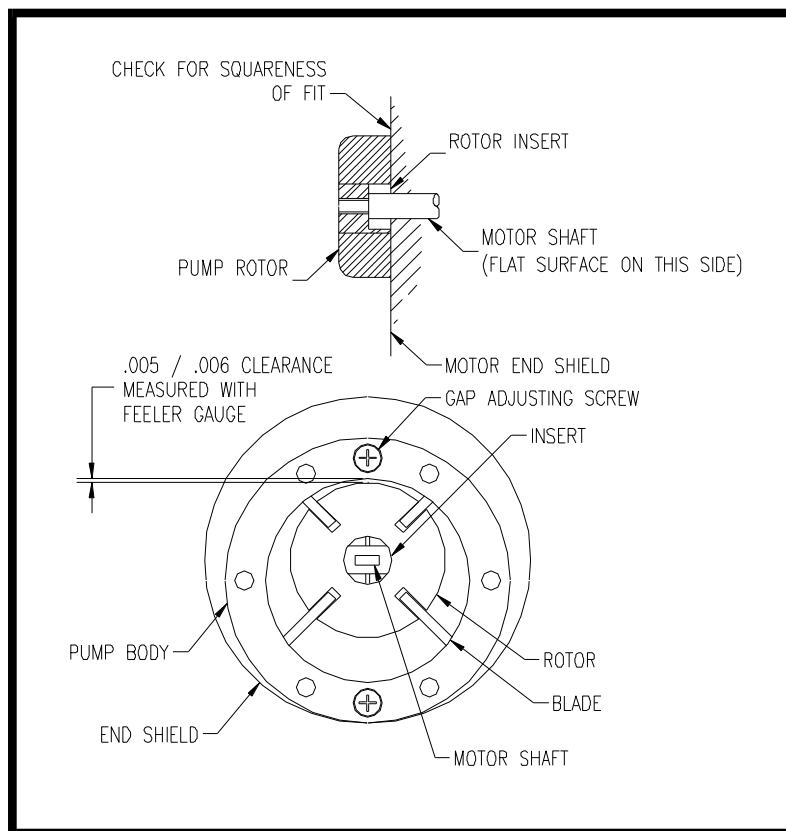

Figure 4-4. Checking clearance of air pump rotor
1. Install the insert in the pump rotor as shown in Fig. 4-4, then assemble rotor on the motor shaft. When installing the rotor, take care to keep it perpendicular to the motor shaft. Attach the pump body to the motor with the two recessed screws that were removed to take it off.
2. Adjust the pump body to provide 0.005 to 0.006 inch clearance at the point shown in the figure 4-4. Measure the clearance with a feeler gauge. Spin the motor by hand to be sure the rotor does not rub on the pump body. The proper clearance must be maintained. Be sure the recessed screws are tight after adjusting.